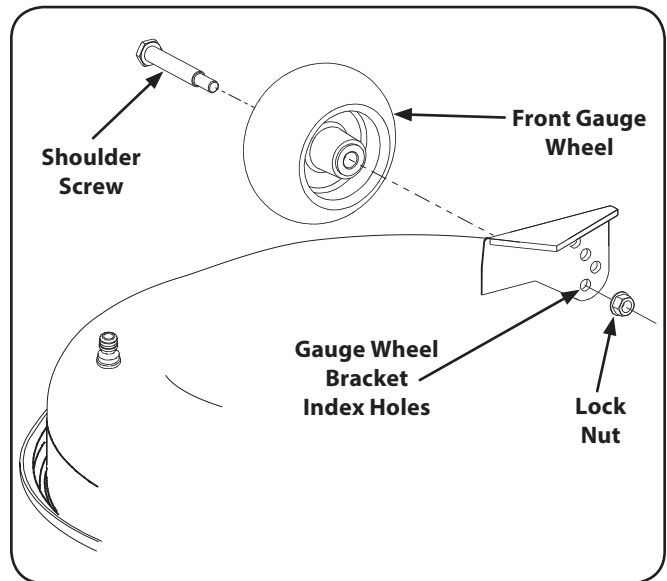

Figure 3-6
- a. Remove the lock nut securing one of the front gauge wheel shoulder screws to the deck. Remove the gauge wheel and shoulder screw. See Figure 3-6.